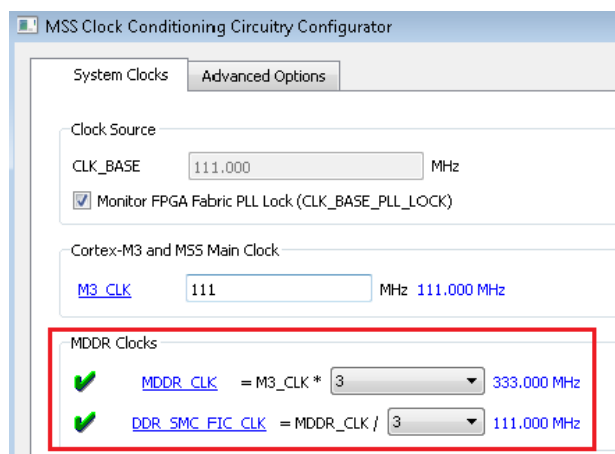

Figure 1-18 • MDDR Clock Configuration
5. Configure the MSS_CCC for MDDR_CLK and DDR_SMC_FIC_CLK. In Figure 1-18, the MDDR clock is configured to 333 MHz and M3_CLK is configured to 111 MHz.